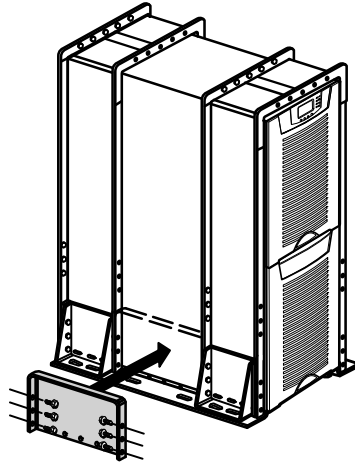
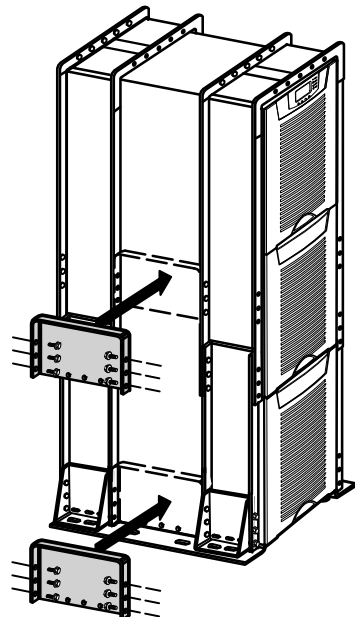

Figure 6. Installing Support Brackets (2-High)
Figure 7. Installing Support Brackets (3-High)
15. Install support brackets on each side using six M6 bolts (see Figure 6 for 2-high cabinets or Figure 7 for 3-high cabinets). Do not tighten the bolts.